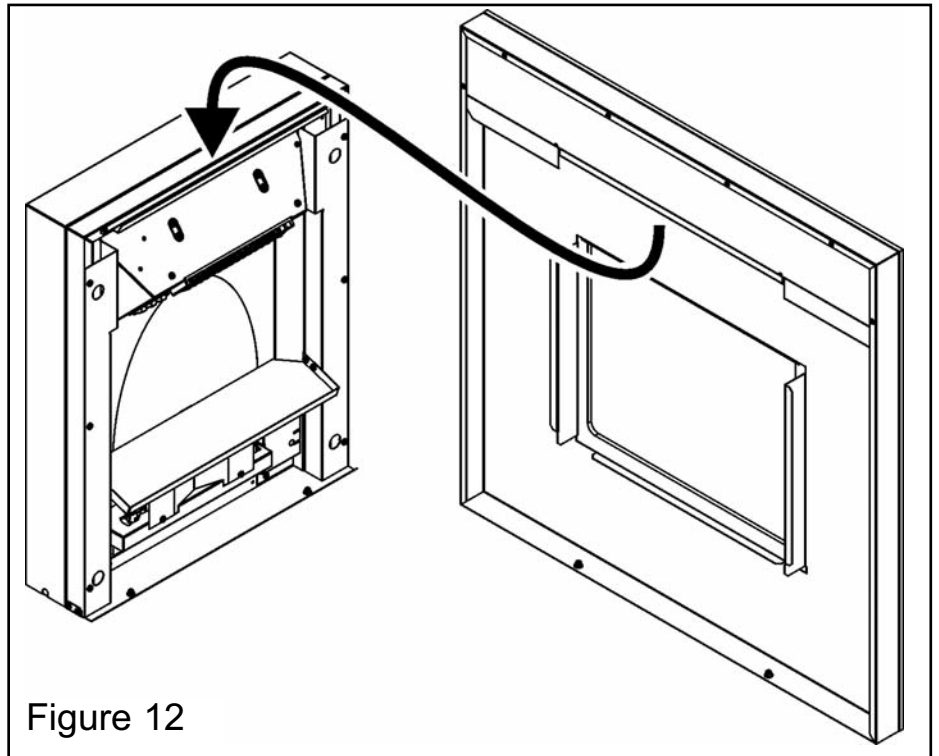

Figure 12
2. Locate the fascia onto the heater. To do this locate the bracket at the top of the fascia into the bracket at the top of the front spacer (See figure 12).